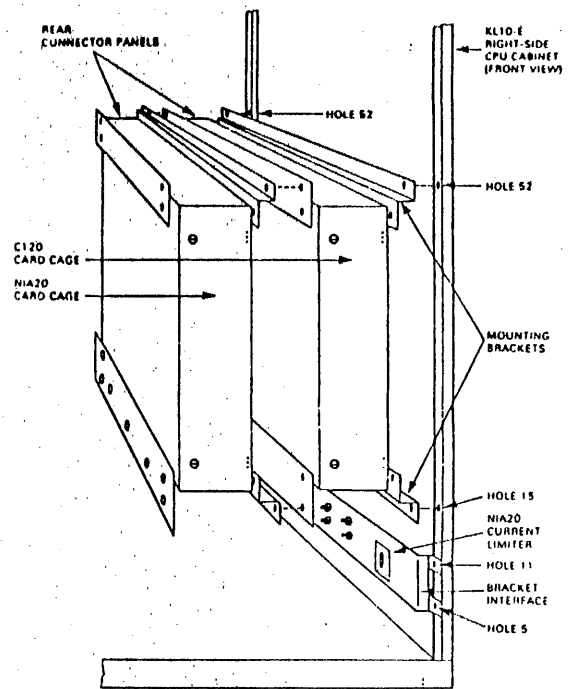

Figure 3-7. NIA-20 Card Cage in KL10-E
1. Install the two NIA20 mounting brackets shown in Figure 3-7 as follows:
- b) Install a total of 8 U-Nuts (Tinnerman nuts), DEC part number 9007786-00, on the right-side frame members of the CPU cabinet (viewed from the front) in preparation for NIA20 card cage and Current Limiter Installation. Insert the Tinnerman nuts into frame holes 5, 11, 15 and 52 on each vertical side frame member counting up from the bottom of the cabinet (see Figure 3-7). Four Tinnerman nuts are inserted into each vertical side frame member.
7. Mount the NIA20 card cage on the two NIA20 mounting brackets (see Figure 3-7), using a total of four 10/32 screws, external lockwashers, and flat washers in frame holes 15 and 52. Hang the NIA20 card cage on the top two screws, then install the bottom two screws.
3. Readjust the 5 volt power supply to 5.0 +/- 0.25 V. This adjustment is located on power supply H7420 number 1, regulator H7440 slot 5 (see Figure 3-5). This regulator is located nearest the H7420 power supply breaker. The voltage is monitored at the black and red wires on connector J1 of the NIA20 card cage (see Figure 3-7).